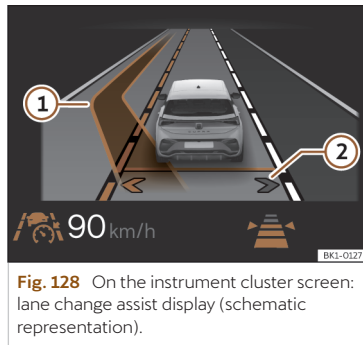

Fig. 128 On the instrument cluster screen: lane change assist display (schematic representation).
This activates the lane assist. The arrows of your own lane on the instrument cluster display are grey >>> **Fig. 128 ②**
If the system detects no objects in the detection field of the sensor system and an assisted lane change to an adjacent lane is possible, the corresponding lane is shown in the instrument cluster display next to the driver's own lane. The arrow on the corresponding side of the lane is displayed in white >>> **Fig. 128 ②**.